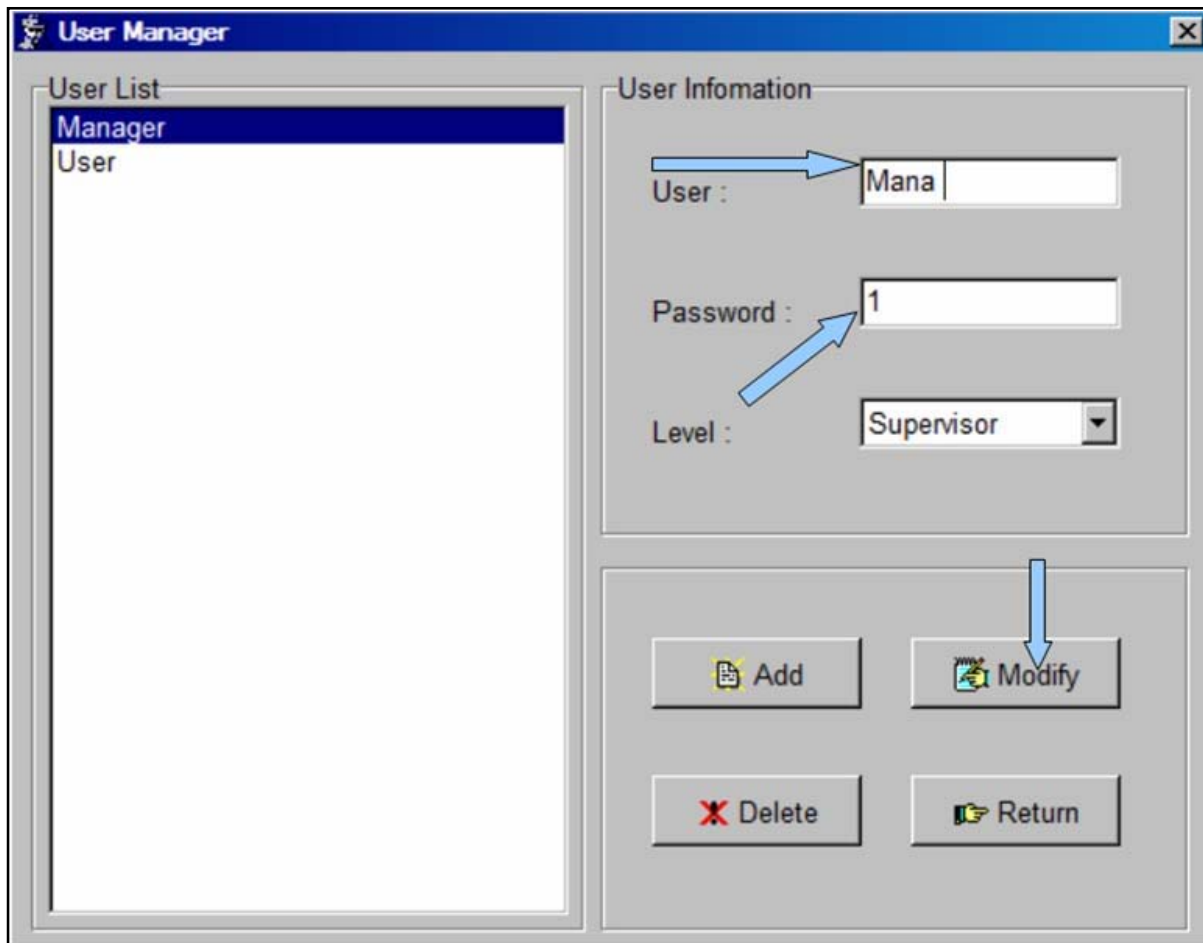

**Figure 4-37. Manager Default Information**
2. Select Manager in the User List, **Figure 4-37** to see the default information.